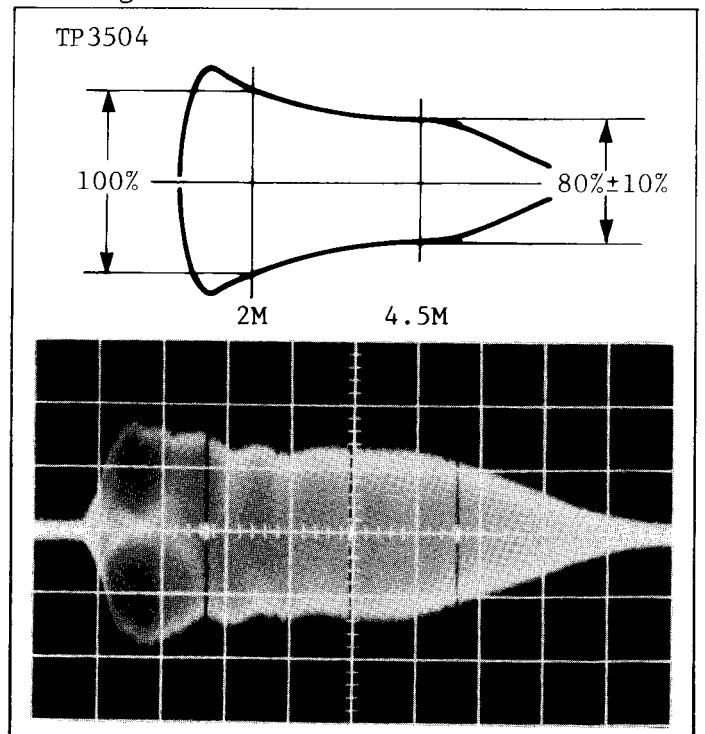

Fig. E15 TP3504 20mV/2msec.div.
8. Adjust the HEAD Q SP-L (R3584) so that the level at 4.5MHz is  $80\% \pm 10\%$  of level at 2MHz as shown in Fig. E15.
11. Adjust the HEAD Q SP-R (R3585) so that the levels at 2MHz and 4.5MHz are shown in Fig. E15.
8. Adjust the HEAD Q LP/SLP-L (R3595) so that the levels between 2MHz and 4.5MHz are shown in Fig. E15.
11. Adjust the HEAD Q LP/SLP-R (R3594) so that the level between 2MHz and 4.5MHz are shown in Fig. E15.